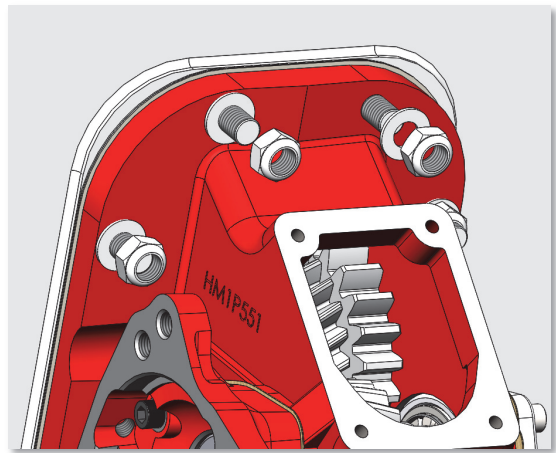

Fig. 6
11. Install the washers and nuts (Fig. 6). Torque the nuts to: